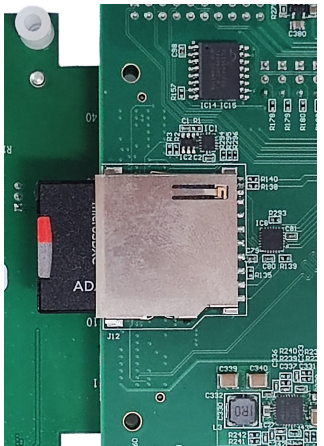

Figure 8. Controller Board SD Card Slot
1. Insert the SD card from the EVAL-AD4630-20FMCZ evaluation kit into the SD card slot (J12) of the ZedBoard, as shown in Figure 8.